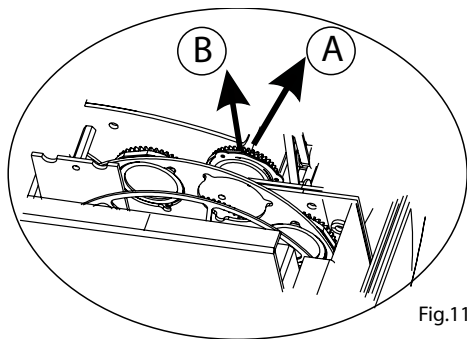

Fig.11
4. Push the gobo plate follow the direction A, and pull out the plate follow the direction B (fig.11).
8. Make sure the gobo plate is installed under the pressure plate (C).